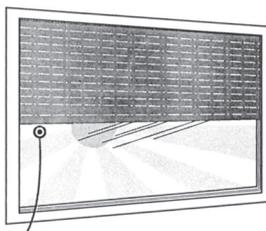

Fig. 1
1. Choose a suitable mounting location that prevents the lux sensor from being shaded by devices other than the roller shutter (see figure 1).